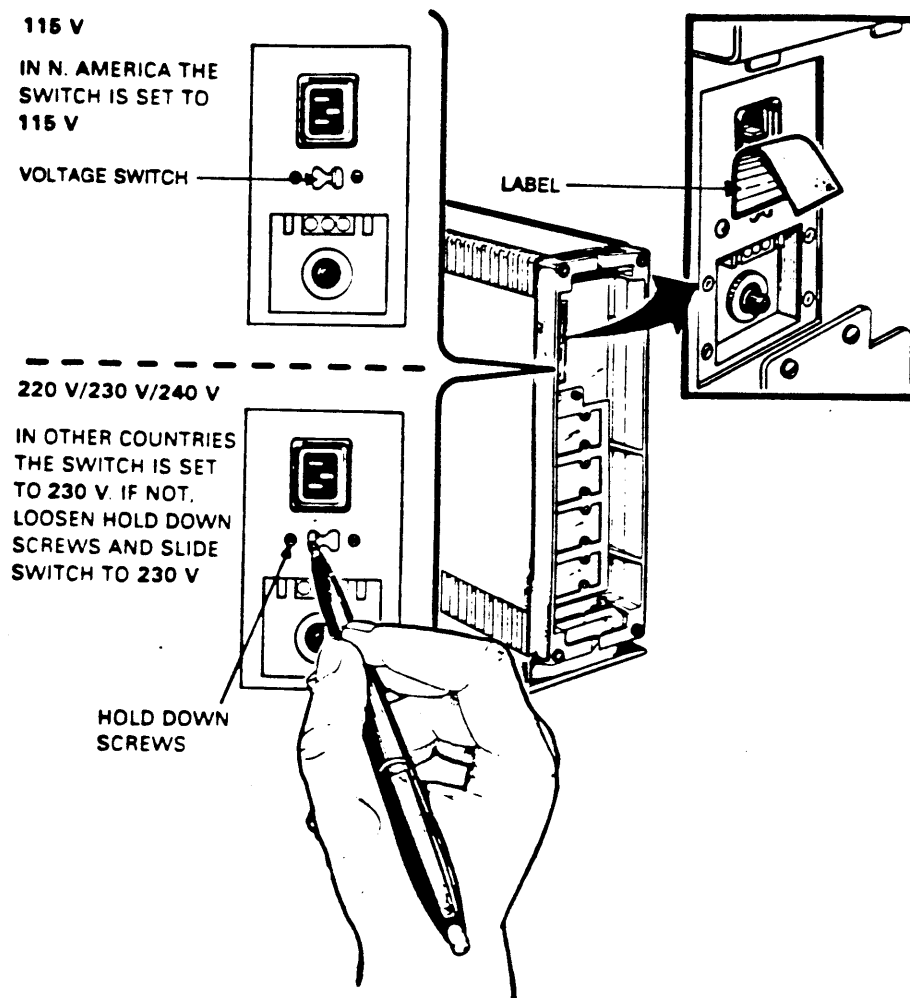

FIGURE 2-6. Checking the voltage setting on the BA23 enclosure.
Step 11: Check the voltage switch setting. Peel back the label covering the switch to see the voltage setting on the BA23 enclosure as shown in Figure 2-6. If necessary, change the switch setting to match the voltage source to be used.